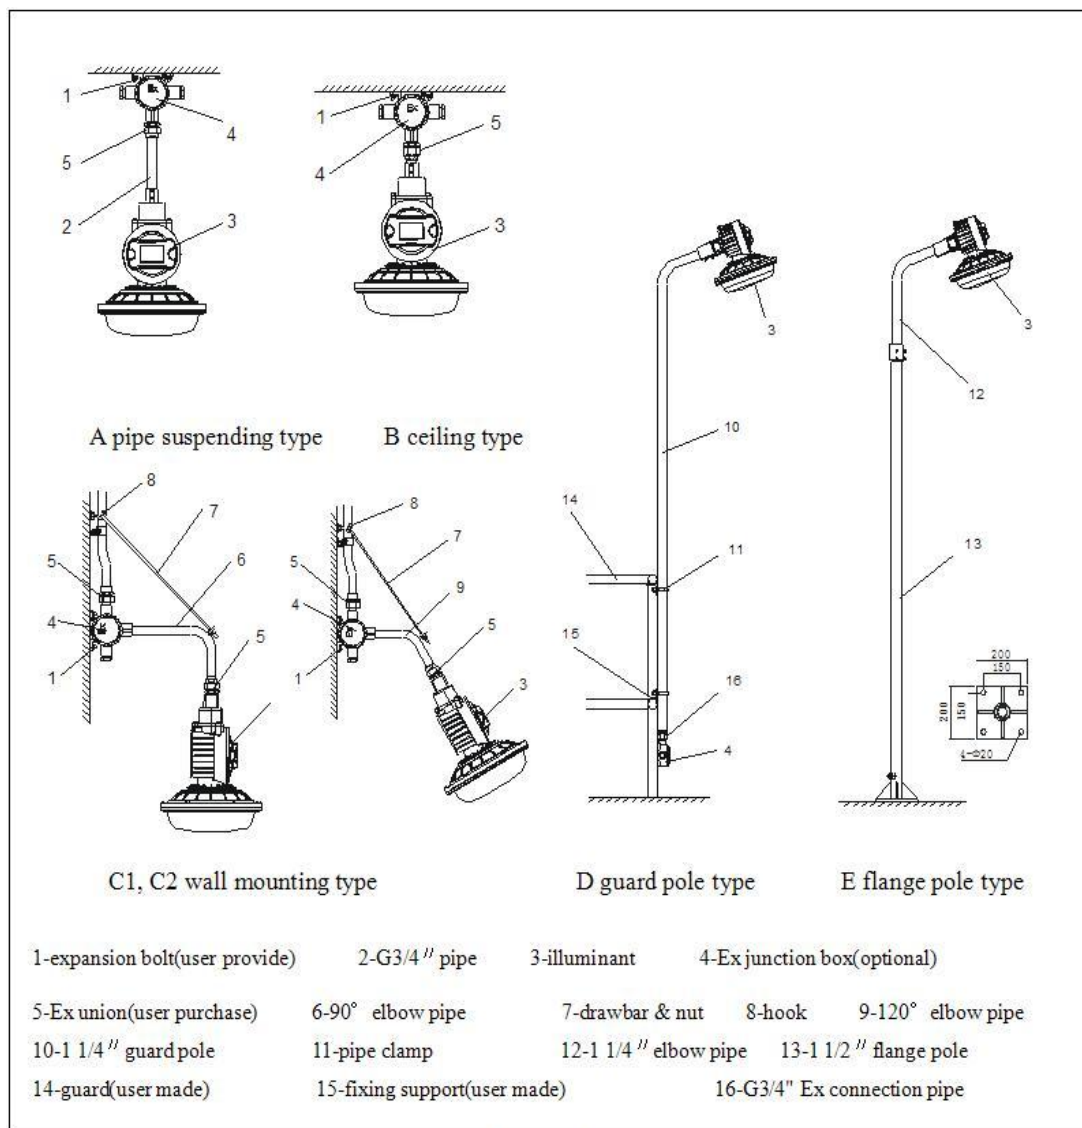

Figure 3
5. User shall follow the installation instructions to install the light correctly.(See Figure 3 for instruction)